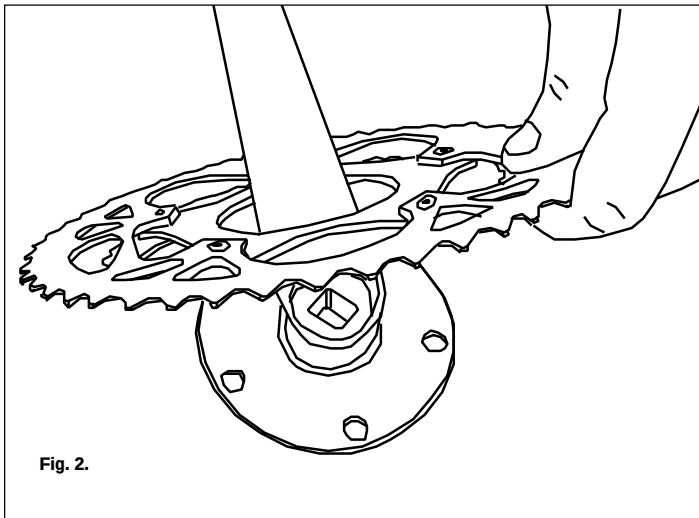

Fig. 2.
- b.) Thread the crank arm through the center of the plate/chainring combo. Line up the timing mark on the chainring with the crank arm (fig. 2).